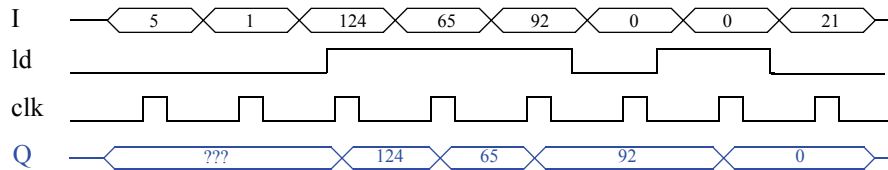

Figure 4.95
- 4.1. Trace the behavior of an 8-bit parallel load register with 8-bit input *I*, 8-bit output *Q*, and load control input *ld* by completing the timing diagram in Figure 4.95.